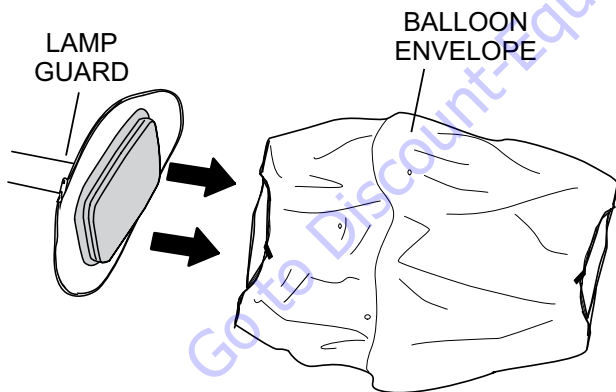

Figure 31. Removing the Balloon Envelope
2. Slide the old or worn balloon envelope (Figure 31) over the top of the lamp guard assembly.